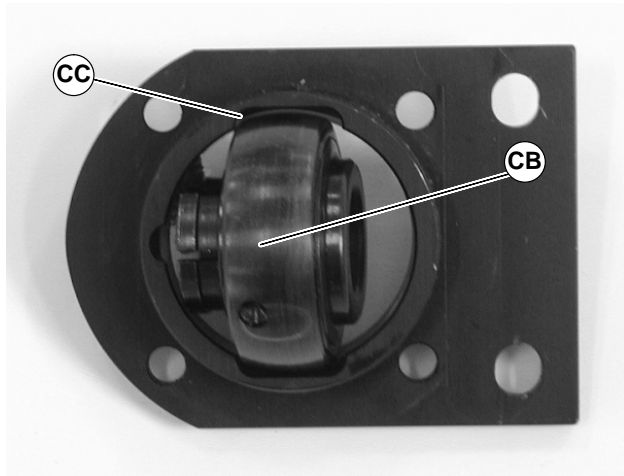

Figure 61
1. Turn bearing (CB of Figure 61) to align with slots (CC) in bearing housing. Then remove bearing.